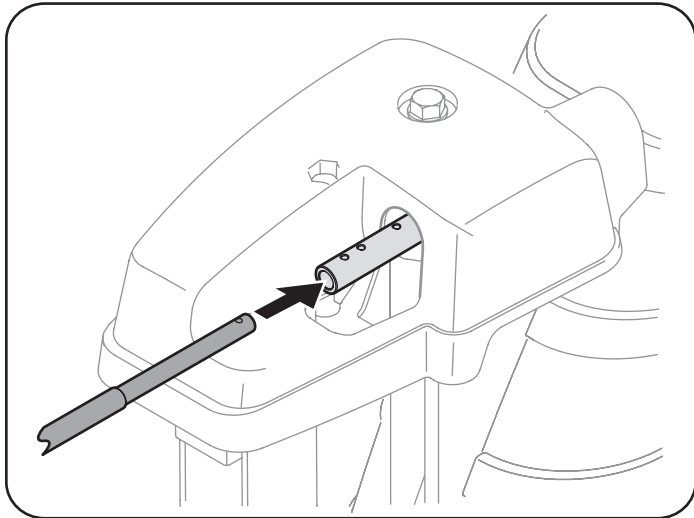

Figure 35
2. Insert the round end of the chute control rod into input of chute control head. Push rod as far into the chute control head as possible, keeping the holes in the rod pointing upward. See Figure 35.